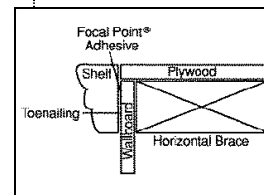

Figure 8
- Make Shelf Bracket from good quality cabinet wood: install as shown. (figure 8)